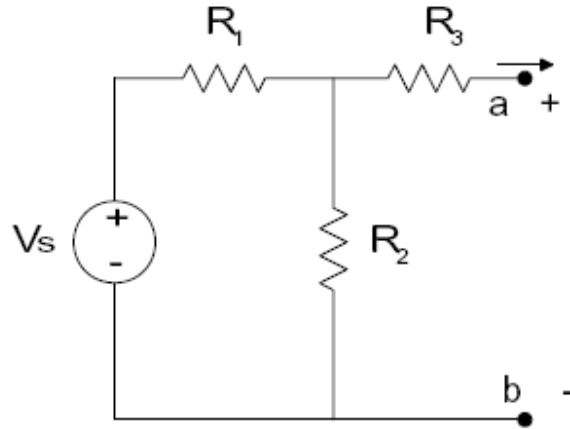

Fig. 1. Experimental arrangement.
1. Construct the circuit shown in Figure 1, where $R_1 = 1.2 \text{ k}\Omega$, $R_2 = 2.4 \text{ k}\Omega$, and $R_3 = 4.7 \text{ k}\Omega$. Set the supply at 8 V. Perform the following measurements: